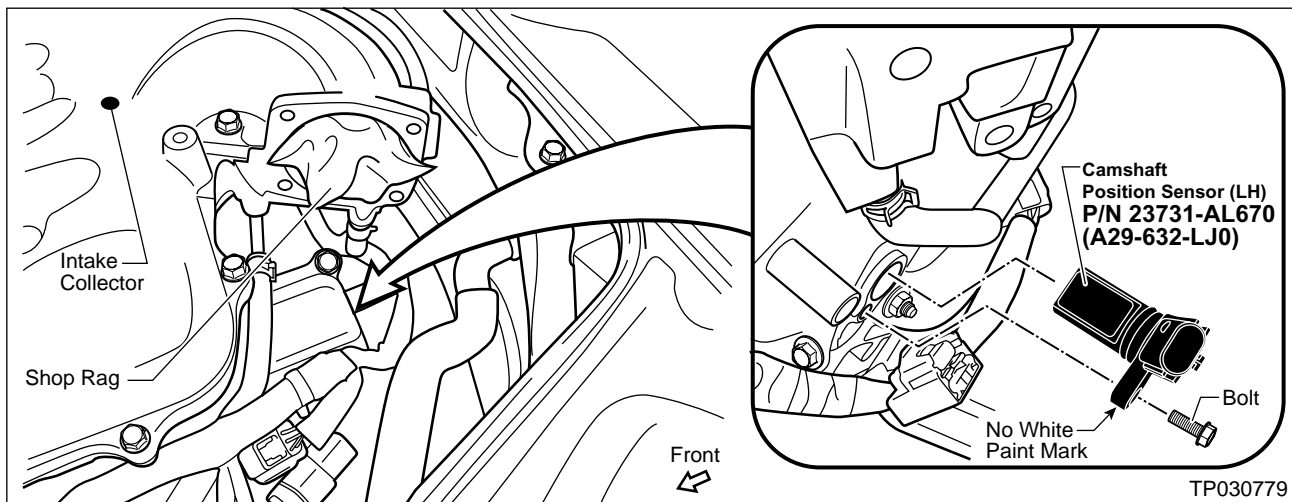

Figure 16
CAUTION: Avoid engine damage; place a shop rag in the opening of the intake collector (see Figure 16, next page).
4. Locate the driver's side (LH) **Camshaft Position Sensor** (see Figure 16).